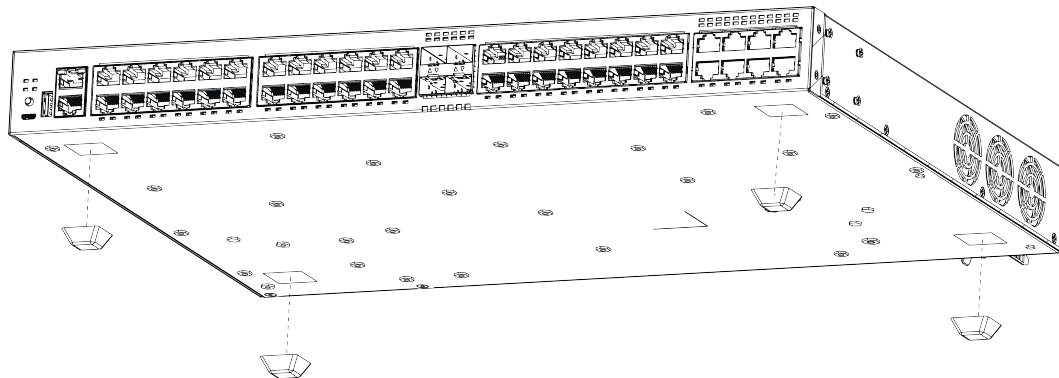

Figure 34: Table Mount: 4220 Series
2. Apply the pads to the underside of the switch by placing a pad at each corner, ensuring that all corners are aligned. Figure 34 shows the locations for attaching the rubber mounting feet on the switch.